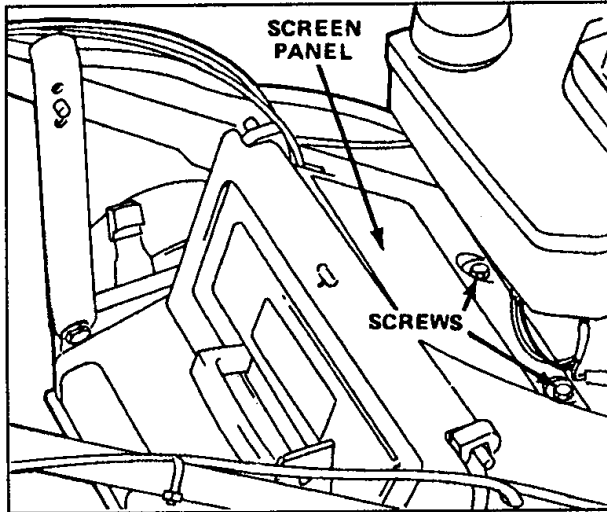

Figure 25
2. Remove (2) screws securing screen panel to top of mower housing (Fig. 25). Remove panel.